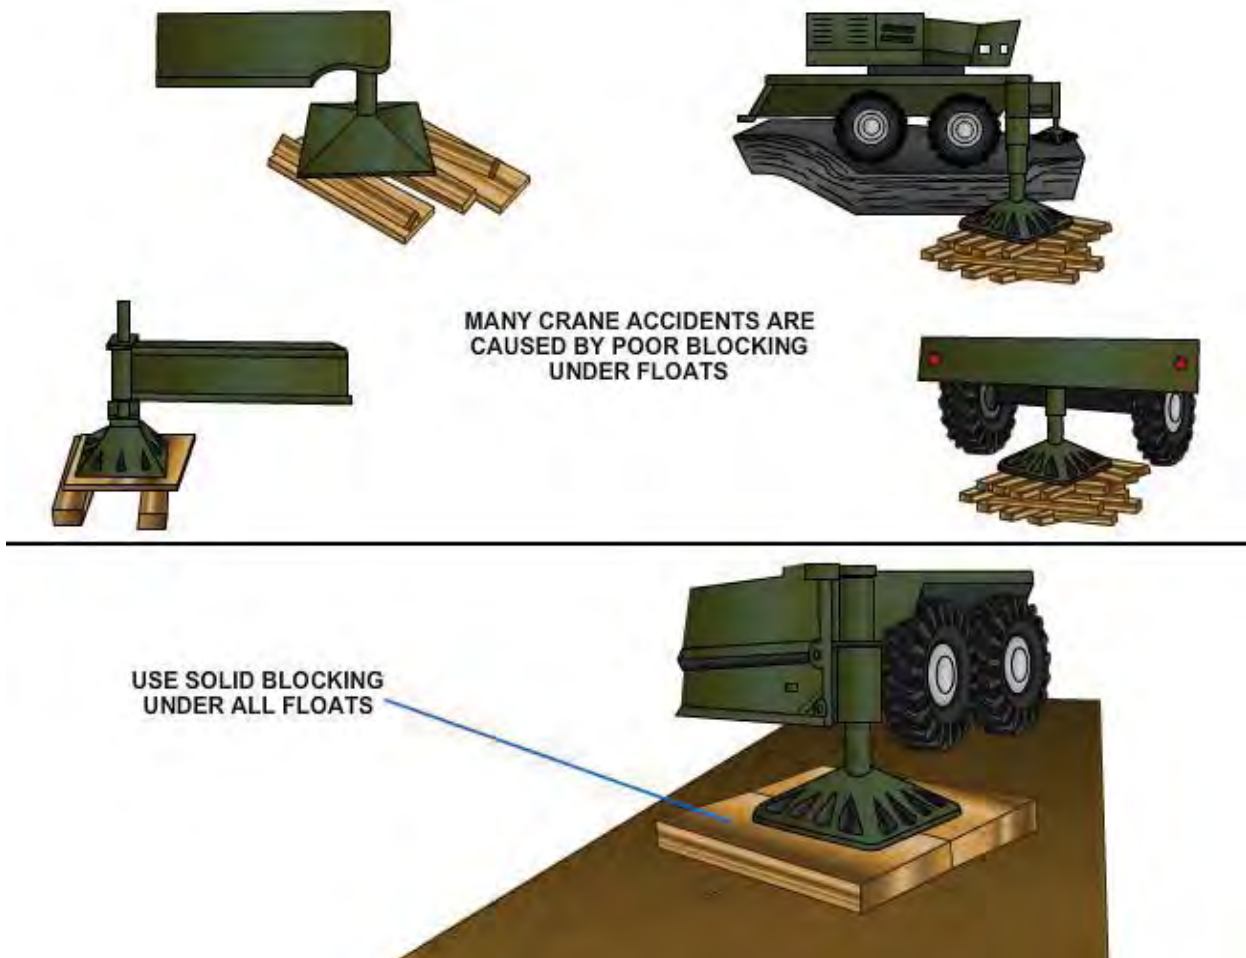

Figure 21-61 – Proper and improper cribbing.
- Failure to block/crib under the outrigger pads when poor ground conditions cannot support the total weight of the crane and load. Proper and improper cribbing is shown in *Figure 21-61*.